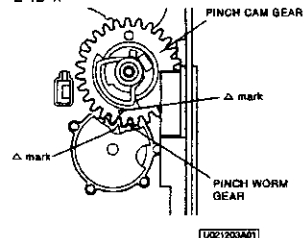

Fig. 2-12-3
- Set the PINCH CAM GEAR so that the Δ mark on it matches with the Δ mark on the PINCH WORM GEAR as shown in Fig. 2-12-3 and install it.